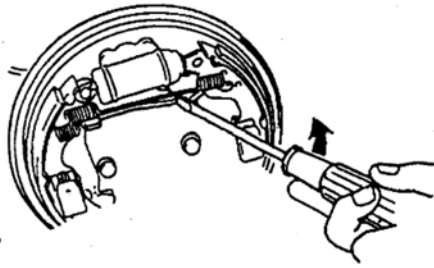

Fig.3.7-6
4) Before assembling brake drum, insert a screwdriver in the self adjusting mechanism in order to get the maximum clearance between brake drum and brake shoe. Press down the toothed quadrant as indicated in Fig.3.7-6.